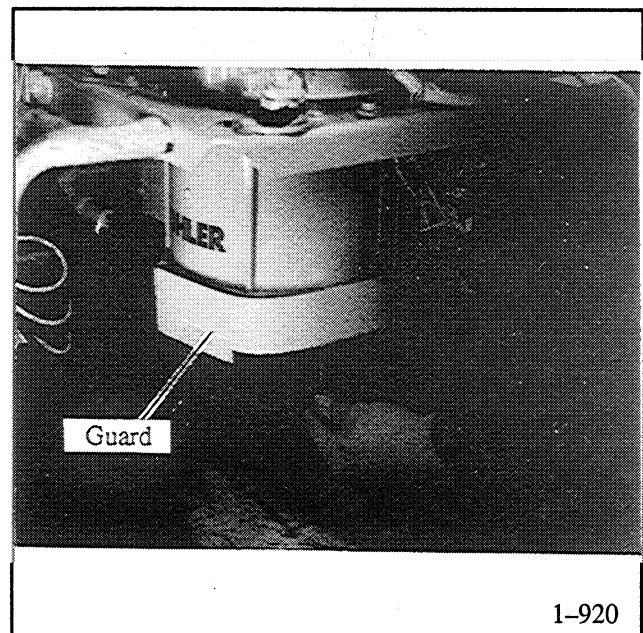

Figure 5-17. Mounting Splash Guard.
14. Mount splash guard to end bracket, see Figure 5-17.